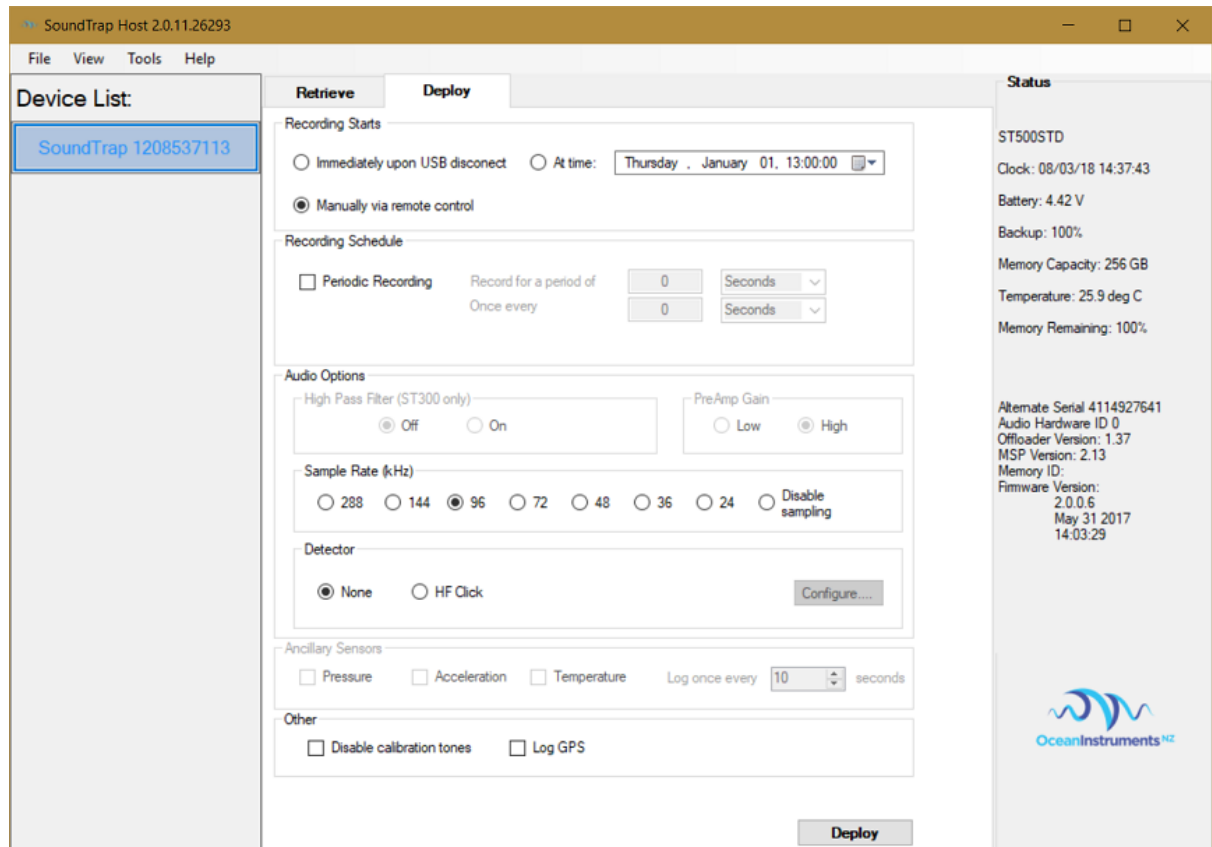

Figure 2 – Deploy Control
- Select the 'Deploy' tab as shown in figure 2.